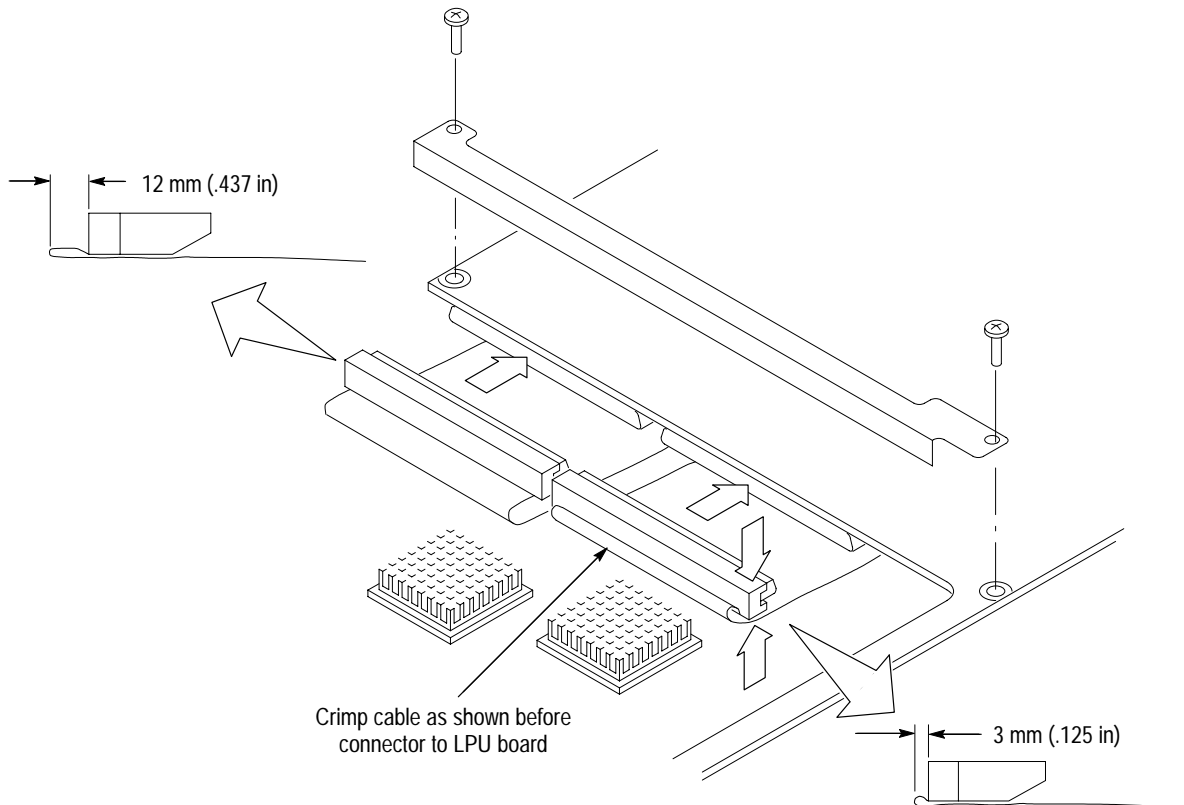

Figure 6–8: Crimping the interconnect cables
4. Crimp and fold the two 100-pin ribbon cables as shown in Figure 6–8 and then connect them to the LPU board at J1330 and J1630.